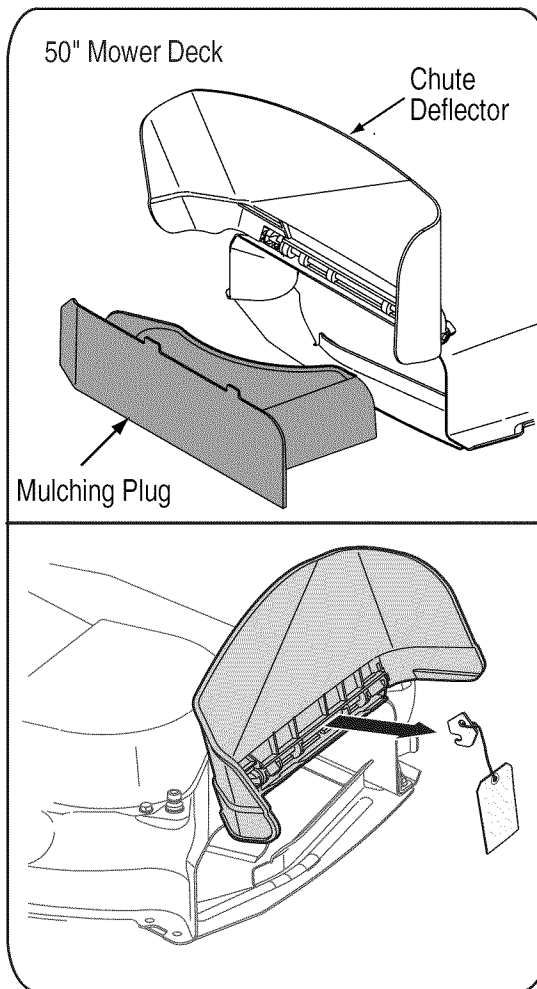

**Figure 2**
- Remove the wing nut and carriage bolt securing the mulching plug in the deck discharge opening, and pull the mulching plug from the deck. See Figure 2.
- Locate the shipping brace and tag, if present, between the chute deflector and the cutting deck. Holding the chute deflector fully upward, remove the shipping brace by grasping it and rotating it clockwise. Lower the chute deflector. Refer to Figure 2.
- Locate the shipping brace and tag, if present, between the chute deflector and the cutting deck. Holding the chute deflector fully upward, remove the shipping brace by grasping it and rotating it. Lower the chute deflector. Refer to Figure 2.